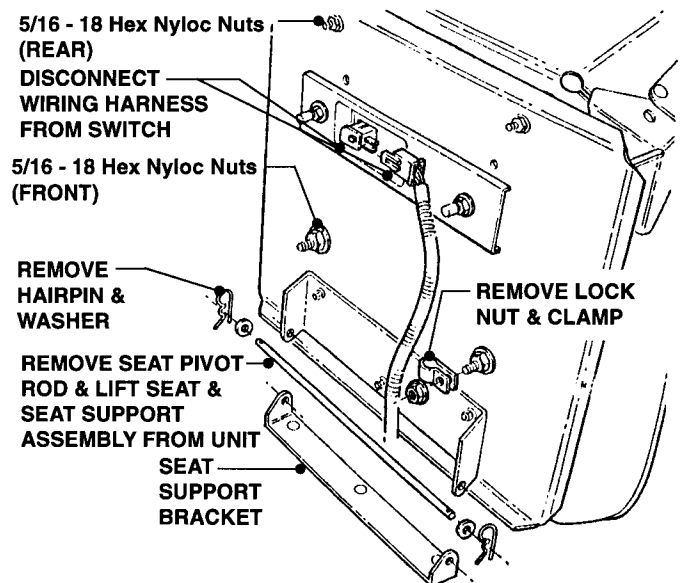

FIGURE 7.4
1. Tilt Seat Assembly forward, then disconnect Wiring Harness from Switch. See Figure 7.4.
4. Remove the assembled Seat and Seat Support from Unit (refer to Figures 7.4 & 7.5).
1. Disconnect Wiring Harness from Switch. Refer to Figure 7.4.
3. Remove the two (2) front 5/16 - 18 Hex Nyloc Nuts first (refer to Figure 7.4).
4. Next, while holding Seat Assembly, remove the two (2) 5/16 - 18 Hex Nyloc Nuts from the rear of the Support Plate.
2. Remove the two (2) 5/16 - 18 Hex Nyloc Nuts.
3. Remove the two (2) 5/16 - 11/16" O.D. Flat Washers.
4. Remove Seat Switch Holder from Studs. Refer to Figures 7.4 & 7.5.